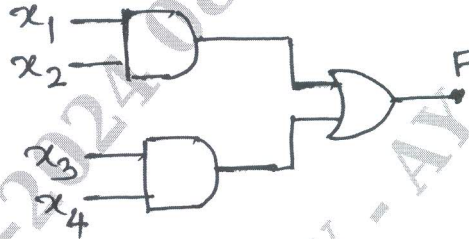

Fig.Q.7(b)
b. Consider the logic circuit shown in Fig.Q.7(b) find Boolean difference with respect to  $x_3$ .